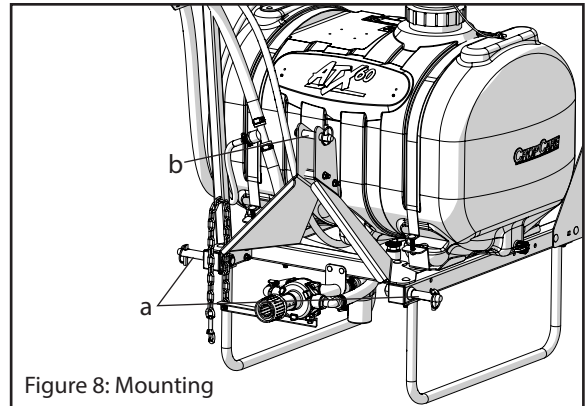

Figure 8: Mounting
1. Attach the sprayer to the tractor using the two lift arm pins (a) and the top link pin (b) (Figure 8).